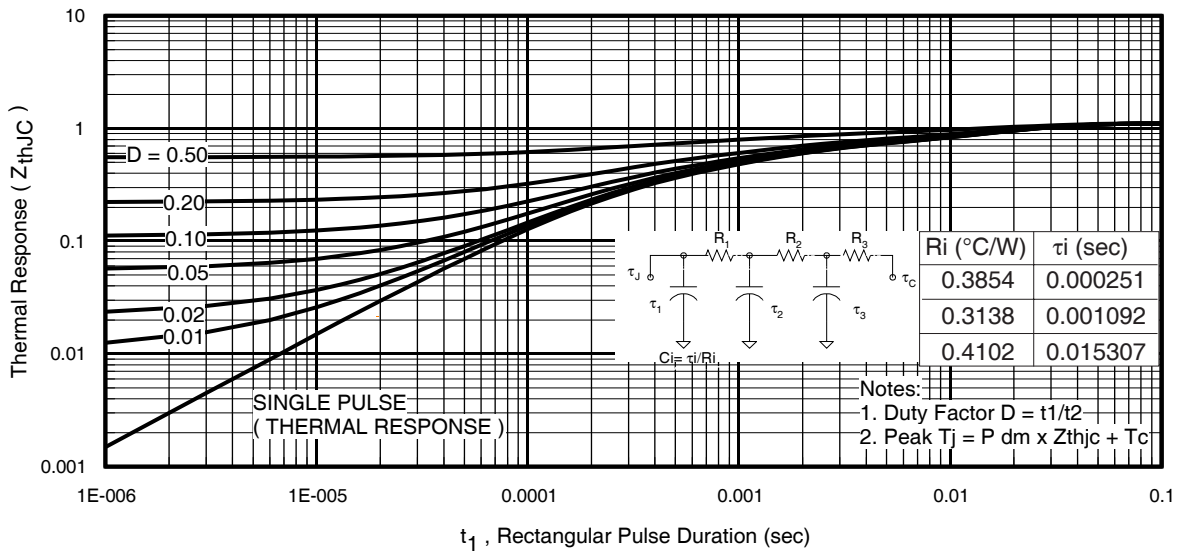

Fig 11. Maximum Effective Transient Thermal Impedance, Junction-to-Case
$Z_{thJC}(D, t_{av})$ = Transient thermal resistance, see figure 11)
- ① Repetitive rating; pulse width limited by max. junction temperature. (See fig. 11).
- ② Limited by T_{Jmax} , starting $T_J = 25^\circ C$, $L = 0.13mH$, $R_G = 25\Omega$, $I_{AS} = 42A$, $V_{GS} = 10V$. Part not recommended for use above this value.
- ③ Pulse width $\leq 1.0ms$; duty cycle $\leq 2\%$.
- ④ C_{OSS} eff. is a fixed capacitance that gives the same charging time as C_{OSS} while V_{DS} is rising from 0 to 80% V_{DSS} .